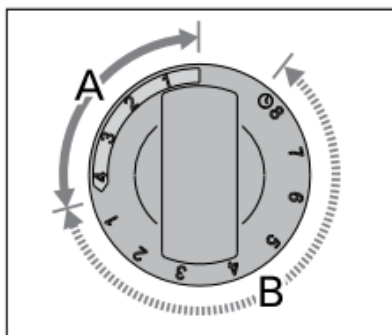

Figure 2. *Timer switch*
- Turn the timer switch to the "on" section (section A in figure 2, 0–4 hours). The heater starts heating immediately.
- Turn the timer switch to the "pre-setting" section (section B in figure 2, 0–8 hours). The heater starts heating when the timer has turned the switch back to the "on" section. After this, the heater will be on for about four hours.